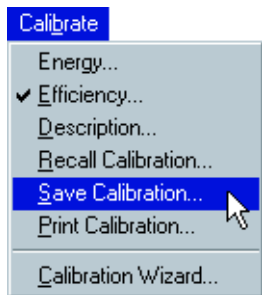

Fig. 27A
1.28 Choose **Calibrate**, **Save Calibration** (Fig. 27A). Browse to the working directory, name the file (a representative name is recommended) and click **Save** (Fig. 27B). A dialog box will appear to allow you to input a detailed description of the calibration (Fig. 27C). Input the description and click **OK**.